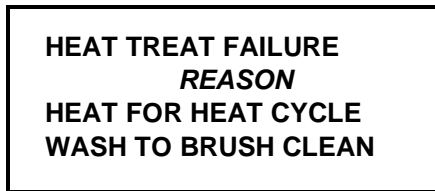

Figure 16
**Soft Lock:** If a heat treatment cycle has not been initiated within the last 24 hours, a soft lock failure will occur. A soft lock allows the operator to correct the cause of the soft lock. The operator has the option of either starting another heat cycle or brush cleaning the machine. When a soft lock occurs, the machine will go into the STANDBY mode. The following message is displayed on the screen. The reason for the soft lock is indicated on the second line. (See Figure 16.)